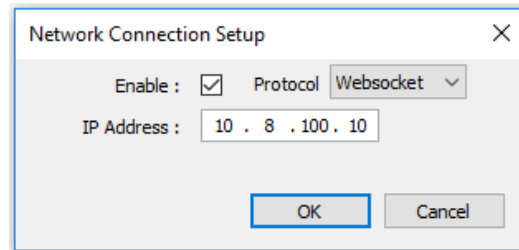

Figure 10-30 Network Connection WebSocket Setup Dialog Box
- ApexZ instruments can also be added manually. See *Adding a Network Connection* and figure 10-30.